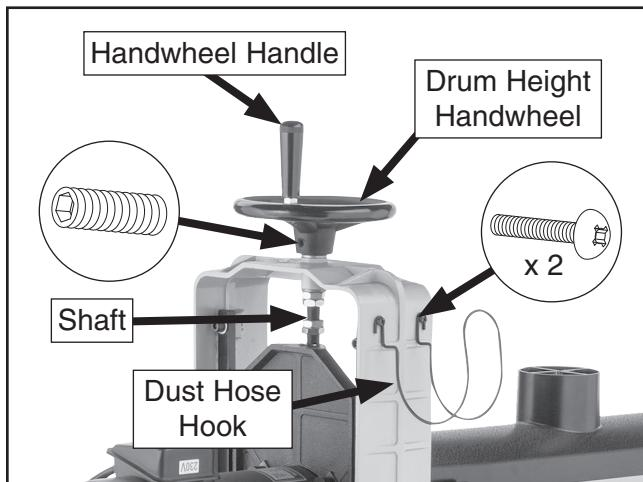

Figure 16. Drum height handwheel installed on sander.
13. Thread handwheel handle into drum height handwheel (see **Figure 16**).
14. Install drum height handwheel on shaft shown in **Figure 16** and tighten pre-installed set screw to secure.
15. Attach dust hose hook with (2) pre-installed M6-1 x 16 Phillips head screws (see **Figure 16**).